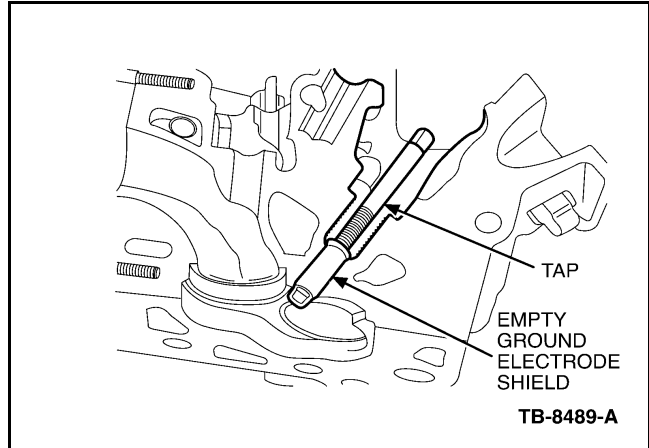

Figure 2 - Article 08-7-6
- a. Mode 1: The ground electrode shield is left behind as an empty shell. (Figure 2)